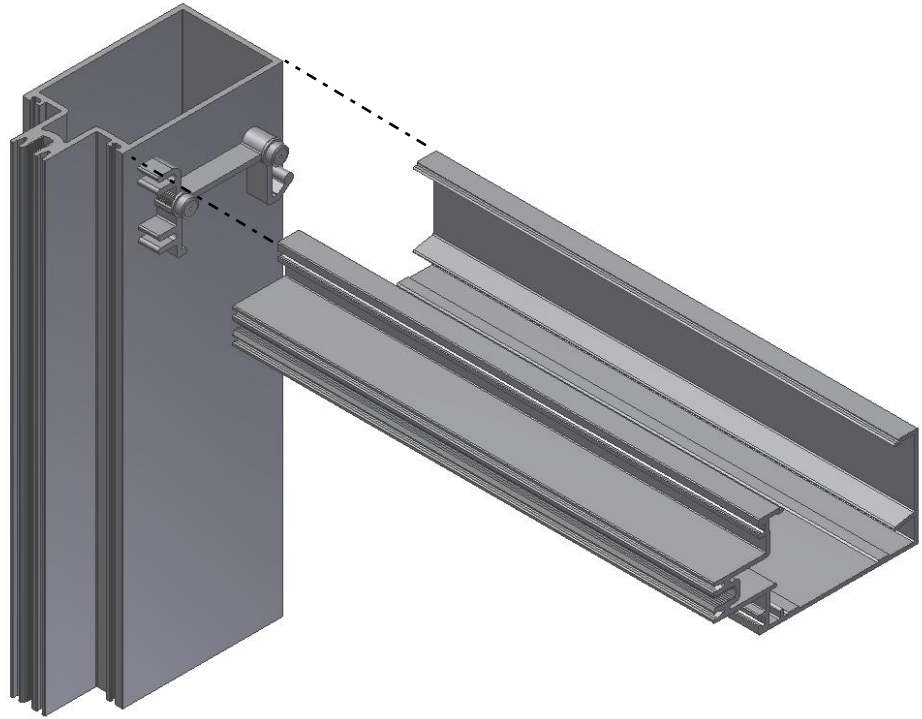

Figure 7: Install a roll-over horizontal in the end bay.
- A roll-over horizontal may be used as shown in Figure 7, as no milling needs to be done to get the shear block into the horizontal.